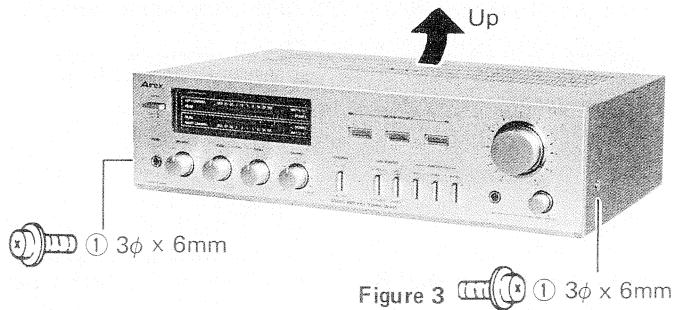

Figure 3 ① 3φ x 6mm
1. Remove two screws ① ($3\phi \times 6mm$) from both sides of top cover as shown in Figure 3.
1. Remove top cover as shown in Figures 3 and 4.